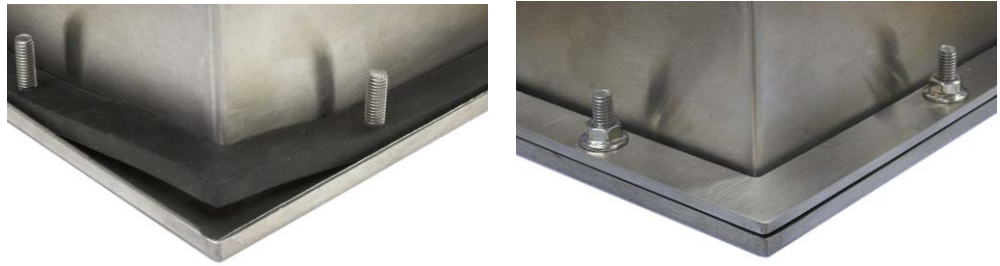

Figure A-4: Gasket on Enclosure (left) and Backing Plate Installed (right)
- Loosen and remove the eight, 8 mm shoulder nuts holding the backing plate to the enclosure. The gasket should remain in position on the terminal. Figure A-4 shows two images of the